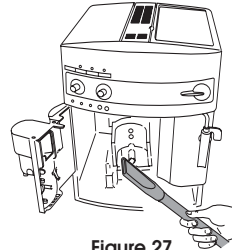

Figure 27
- Carefully clean the inside of the machine by scraping it with a plastic or wooden fork (Figure 26) and then pick up all the residues using a vacuum cleaner (Figure 27)